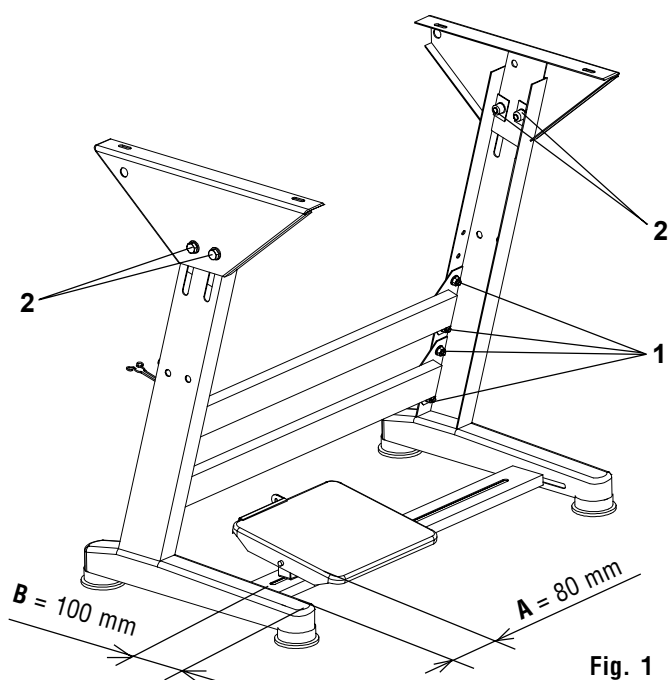

Fig. 1
4. Assembly of the stand frame and height setting (Fig. 1)
Proceed to the assembly of the stand frame according to the Fig. 1. The dimension "B" is destined for a middle-high stature of the machine attending person. For a higher stature it is necessary to increase the dimension "B" and inversely. The machine feet are to be levelled with the floor in loosening the screws (1). Using the screws (2) it is possible to set up the height of the stand table top.